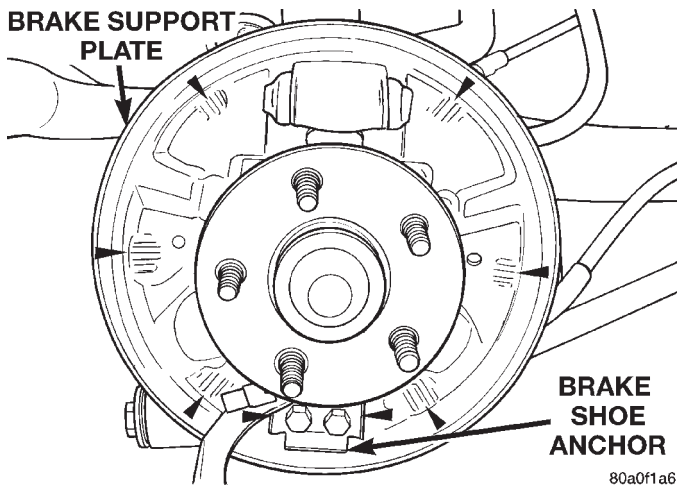

Fig. 69 Brake Shoe Contact Areas on Support Plate
(1) Lubricate the six brake shoe contact areas on the brake support plate and the brake shoe contact points on the brake shoe anchor (Fig. 69) using Mopar Multi-Purpose Lubricant or equivalent.